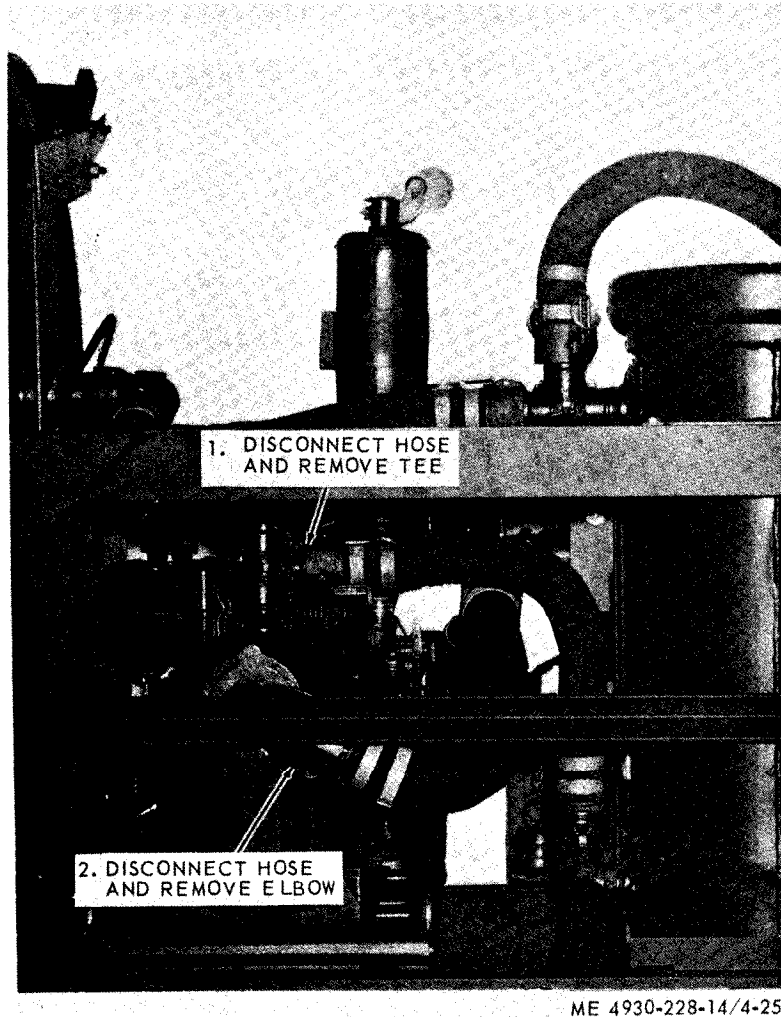

Figure 4-25. Inlet elbow and outlet tee, removal.
a. Removal. Refer to figure 4-25 and remove the inlet elbow and outlet tee.
- (1) Clean and dry all parts thoroughly.
- (2) Inspect the inlet tees and outlet elbows for cracks, breaks, and other damage.
- (3) Inspect for worn or broken gaskets.
- (4) Replace defective parts.
c. Installation. Refer to figure 4-25 and install the inlet elbow and outlet tee in reverse order of removal.